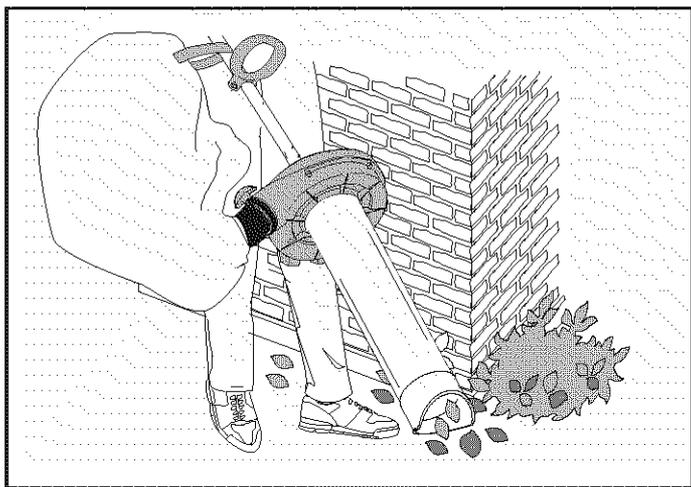

Fig. 8
1. The vacuum can be used for cleaning around rocks, under shrubs and trees, along walls, or vacuuming piles of debris formed by blower. (Fig. 8)